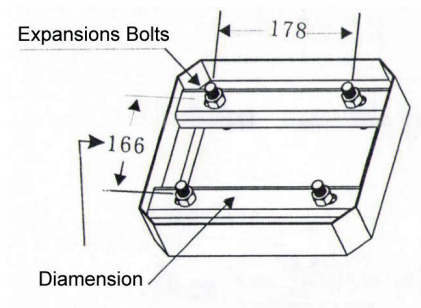

Figure 3 Press plate of case
(Fig.3)
7.1.1 Please select the correct type of barrier gate according to the specifications of the pace, and then fix the barrier cabinet with expansion bolts (refer to Figure 3).